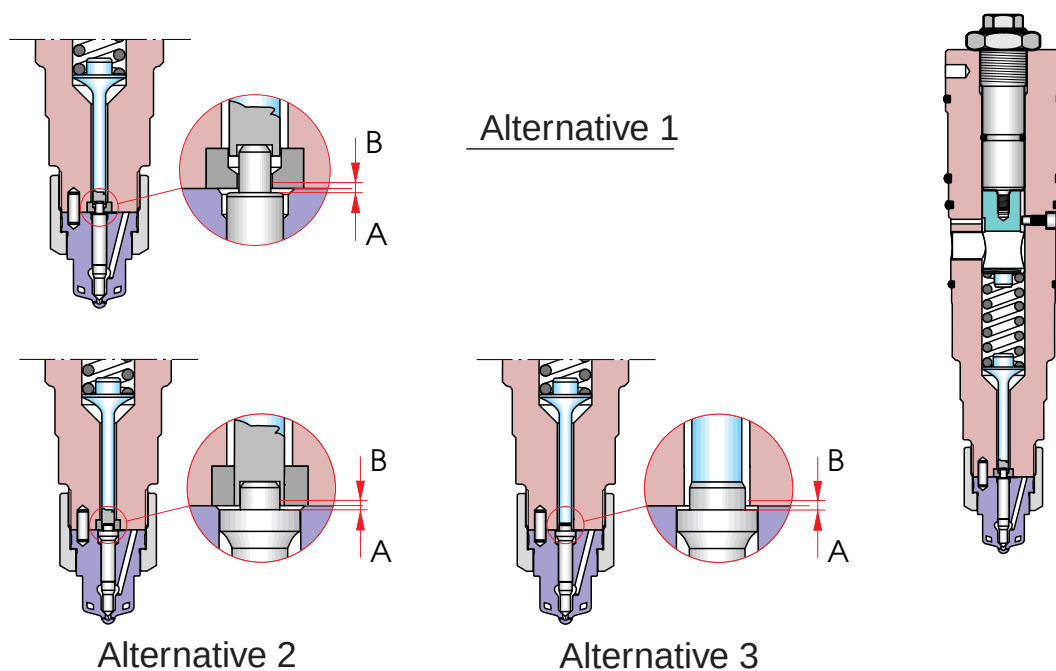

Fig 16-3
- 3 Release the nozzle spring tension** by opening the counter nut (6) and releasing the adjusting screw (7).
- 4 Remove the nozzle from the holder** by turning the cap nut (14) using tool 800037 until it is loosened. Keep the nozzle together with the holder body, don't let it follow up with the nut. If there is coke between the nozzle and the nut, the dowel pins may break and damage the nozzle. To avoid this, knock on the nozzle, using a piece of pipe according to Fig 16-3, to keep it towards the holder. **Never knock directly on the nozzle tip.** Be careful not to drop the nozzle.
**9 Check maximum lift of nozzle**, i.e. sum of measures A and B in Fig 16-3. If the wear B exceeds 0.10 mm, the nozzle holder can be sent to the engine manufacturer for reconditioning. If the total lift is out of the value stated in chapter 06, section 06.2, the nozzle should be replaced by a new one.